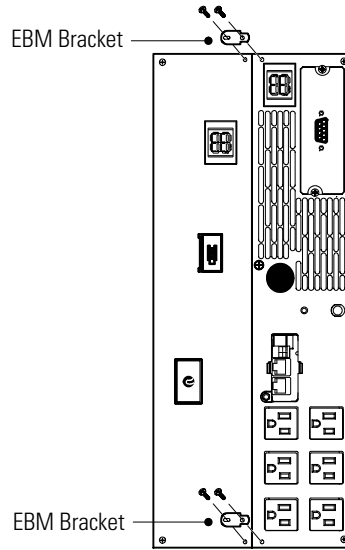

Figure 5. Installing the EBM Brackets
1. Remove the adjacent corner screws from the rear panels as shown in Figure 5 to install the EBM brackets. Discard the screws.